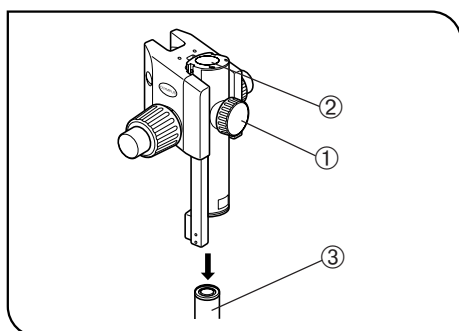

Fig. 17
2 Mounting the Focusing Assembly (Figs. 17 & 18)
1. First loosen the focusing assembly clamping knob ① completely and, while holding the focusing assembly with both hands, insert the pillar ③ into the mounting hole ② from below. (Fig. 17)
2. Lower the focusing assembly until it stops, then tighten the focusing assembly clamping knob ①. (Fig. 17)
★ If the clamping knob ① is tightened while the pillar ③ is not completely inserted into the mounting hole ②, the plate spring supporting the pillar will deform and the pillar will not be able to penetrate into the hole. (Fig. 17)